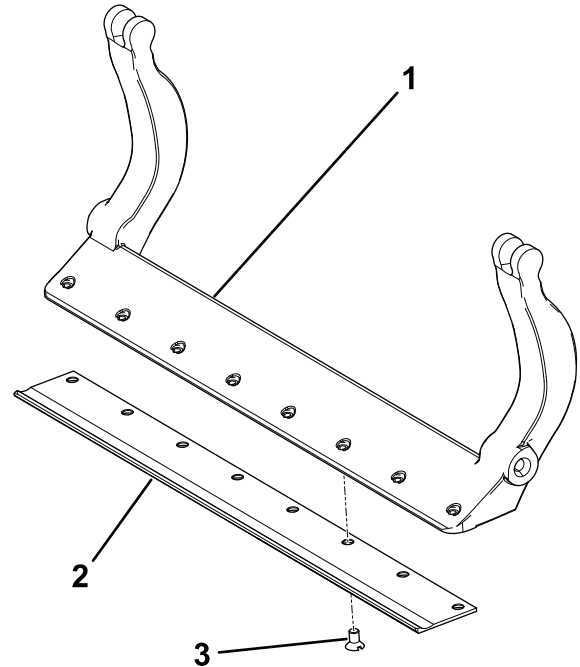

Figure 40
3. Apply anti-seize compound to the screws and install the bedknife to the bedbar as follows (Figure 40):
- A. Torque the 2 outer screws to 1 N·m (10 in-lb); refer to Figure 40.
- B. Working from the center of the bedknife, torque the screws to 23 to 28 N·m (200 to 250 in-lb); refer to Figure 40.